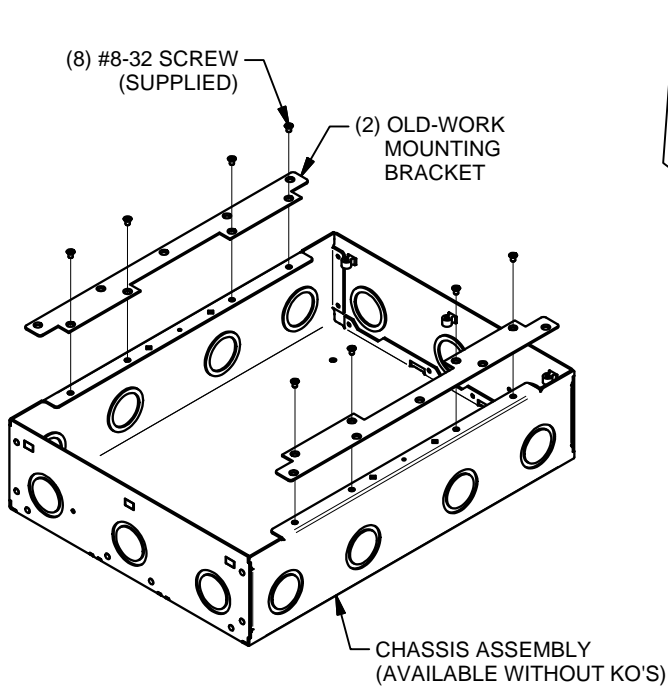

FIGURE 13
4. INSTALL OLD-WORK MOUNTING BRACKET TO CHASSIS ASSEMBLY AS SHOWN IN FIGURE 13.